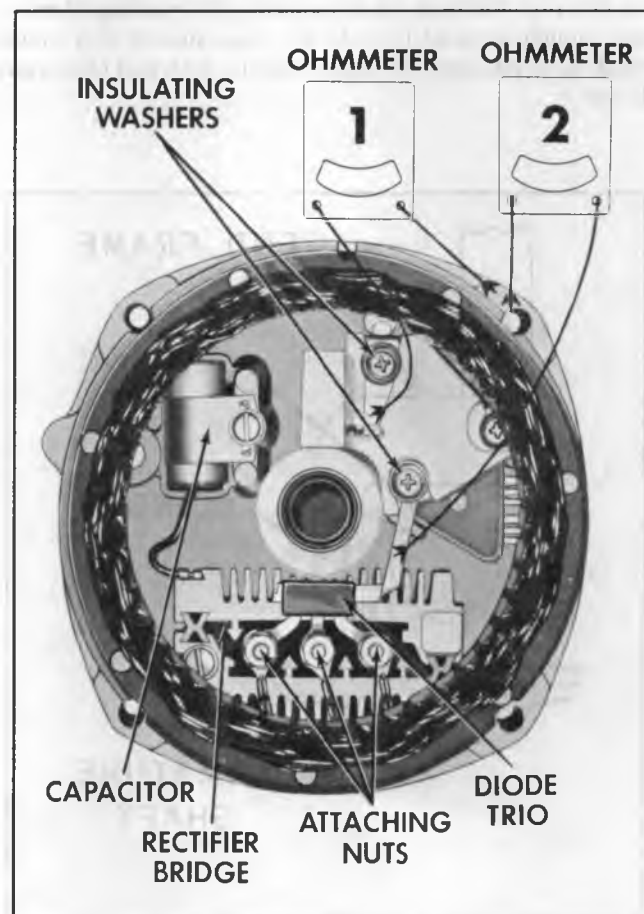

Fig. 7C--Brush Lead Clip Checks
5. Remove screw attaching diode trio to brush holder assembly and remove diode trio from end frame (fig. 7C).
The diode trio may also be checked for a grounded brush lead while still installed in the end frame. Connect an ohmmeter from the brush lead clip to the end frame as shown in Step 2, Figure 7C, then reverse the lead connection. If both readings are zero, check for a grounded brush lead clip caused by omission of the insulating washer, of the insulating sleeve over the screw, or damaged insulating sleeve. Remove the screw to inspect the sleeve. If sleeve or screw are not grounded, replace regulator.
### Voltage Reg./Brush Lead Clip Check (fig. 7C)
Connect an ohmmeter from the brush lead clip to the end frame as shown in Step 1, Figure 7C. Then reverse lead connections. If both readings are zero, either the brush lead clip is grounded or the regulator is defective.
### Brush Holder and Regulator Replacement (fig. 7C)